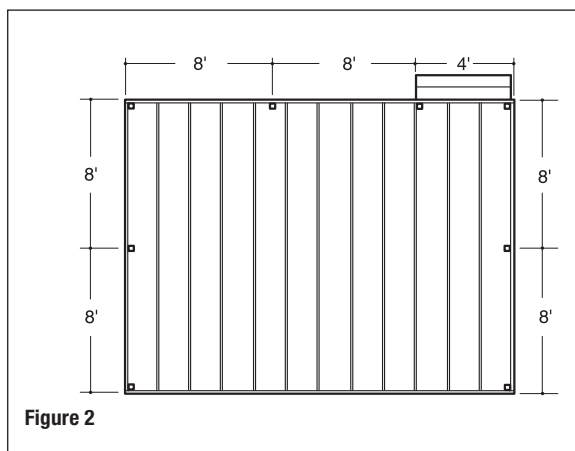

Figure 2
Step 1 Determine the number of railing posts needed for your deck. *Post spacing is 8' on-center.* Example: A 16x20 deck attached to a building with a 4' access opening on one side will require a total of eight posts (**Figure 2**).